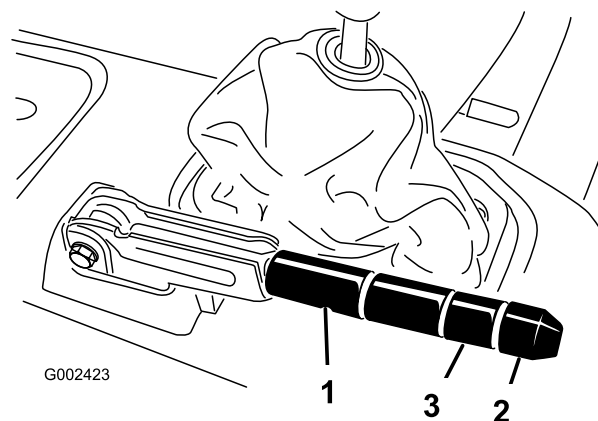

Figure 55
2. Loosen the set screw securing the knob to the parking brake lever (Figure 55).